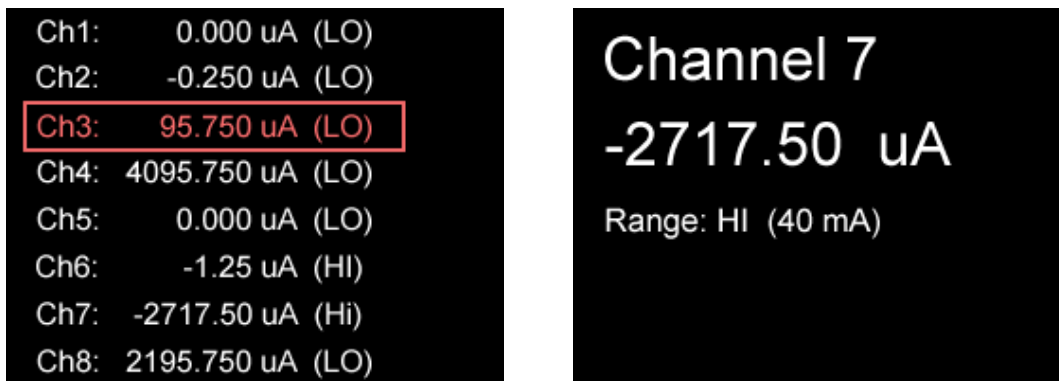

Figure 2. General menu (left) and Channel menu (right) of the device.
There are two menus that can be displayed on the screen: General menu and Channel menu (Fig 2).
General menu (Fig 2 left) is the first menu displayed on the screen after initialization (Fig. 2)1. The menu displays settings of all channels along with the current range (LO – 4 mA range, LO – 4-mA range). After powering up the multichannel current source the settings correspond the last values set before switching off of the device.
Channel menu (Fig. 2 right) can be called by pressing middle of Control keys ②. The channel displays the name of the channel, current set value, and current range. Change of the value is done by rotation of Multiturn pressable knob ③, which operates in the same manner as in General menu: speed-dependent rotation controls change of the current value, short pressing of the knob changes the current range, and holding the pressed knob for 1s resets the current value to zero.